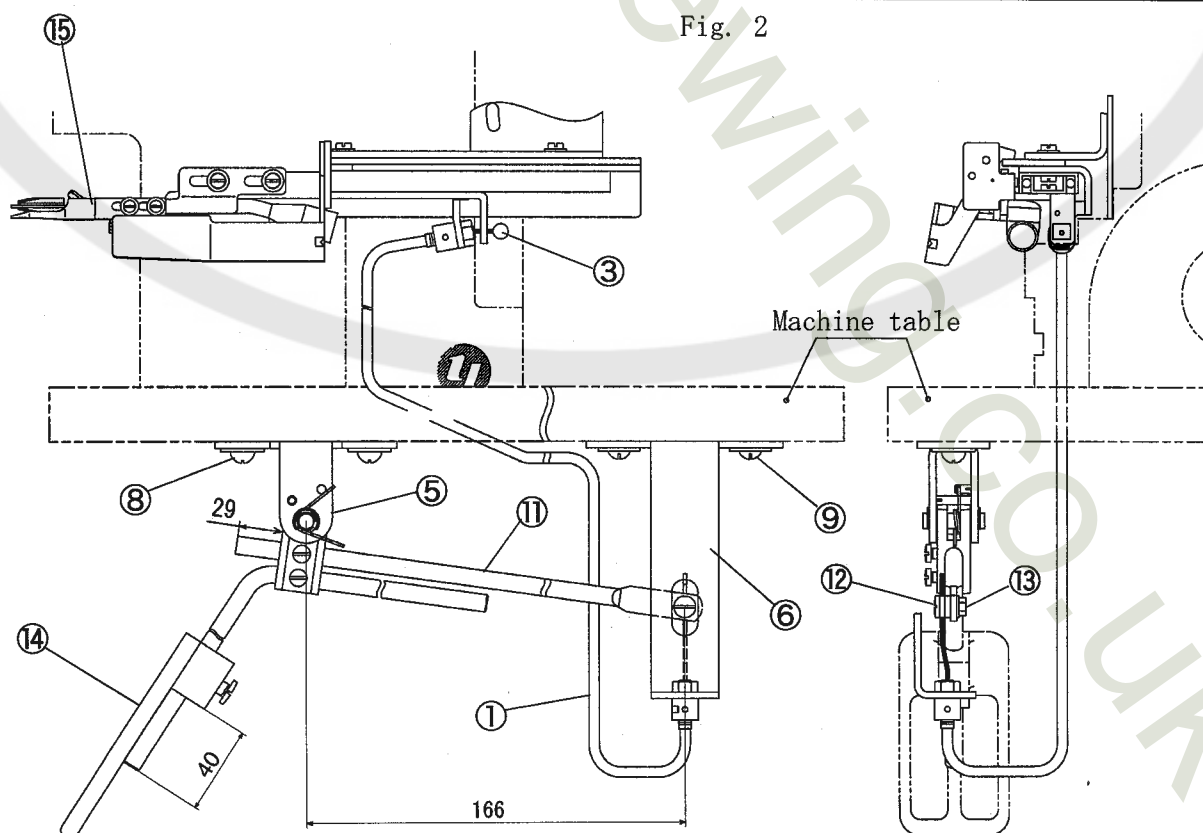

Fig. 3
- (1) Set one end of flexible wire pipe ① to the device ② and insert the wire ③ into the pipe.
- (2) Set the device ② horizontally to the machine frame with two screws ④.
- (3) Set the knee press support ⑤ with two screws ⑧, the flexible wire guide support ⑥ with two screws ⑨, and the air regulator ⑦ with two screws ⑩ under the machine table. (Figs. 3 and 6)
- (4) Insert the other end of flexible wire pipe ① into the flexible wire guide support ⑥.
- (5) Make sure the knee press connecting shaft ⑪ is in the lowest position and the wire ③ is not slack when the suction pipe C. set ⑮ is in the extreme right position (home position). Here, insert the wire into the hole on the screw ⑫ and fix it with the nut ⑬.